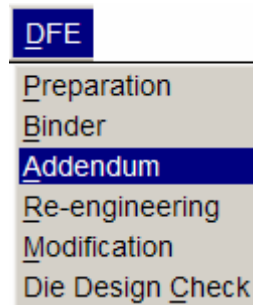

Figure 33 DFE menu
1. Select **DFE→Addendum** from the menu bar, as illustrated in Figure 33.